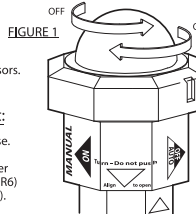

FIGURE 4
2. Fasten to See-Me Light by placing dip arms around side handles and snapping into place. See Figures 4 and 5. The clip should make audible SNAP sound when placed correctly.